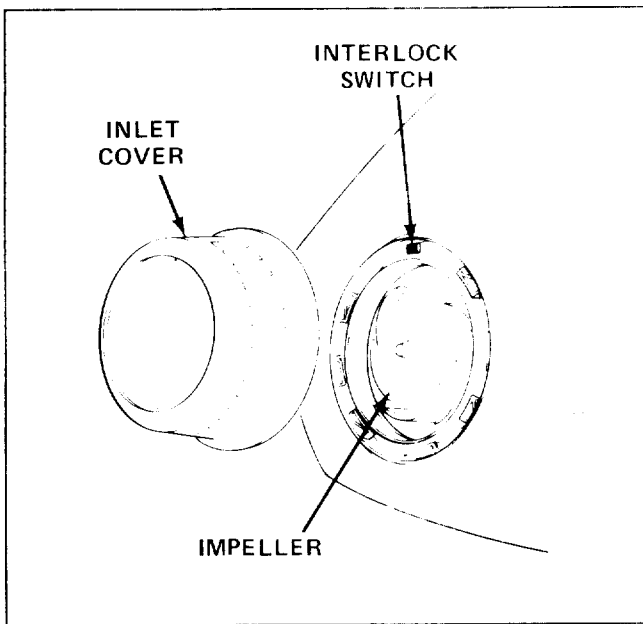
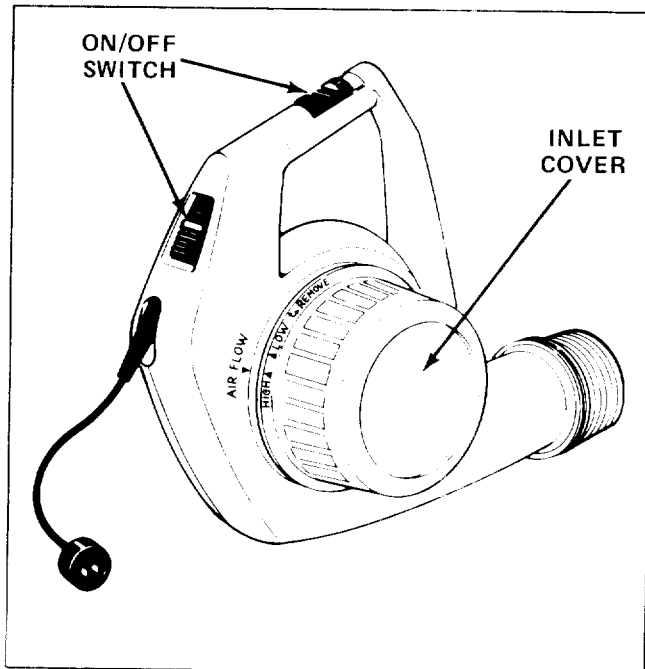

Figure 2
Figure 7
3. Insert inlet cover and rotate clockwise until locking tabs are fully engaged (Fig. 2). The "HIGH" triangle on the inlet cover will be aligned with the "AIRFLOW" triangle on the housing (Fig. 7). The cover locks with a snapping action.
1. Remove inlet cover by rotating it counterclockwise until "REMOVE" arrow aligns with airflow triangle on housing. Locking tabs will release with a snapping action (Fig. 2). Pull off cover.
Your blower features a variable inlet cover (Fig. 7) which allows you to adjust the volume of airflow by rotating the inlet adjustment knob. Low and intermediate flow will allow you to easily direct debris from open doorways, screens, etc. Experience with the unit will indicate the amount of airflow necessary for each application.
2. Slide on/off switch to the "on" position (Fig. 7).